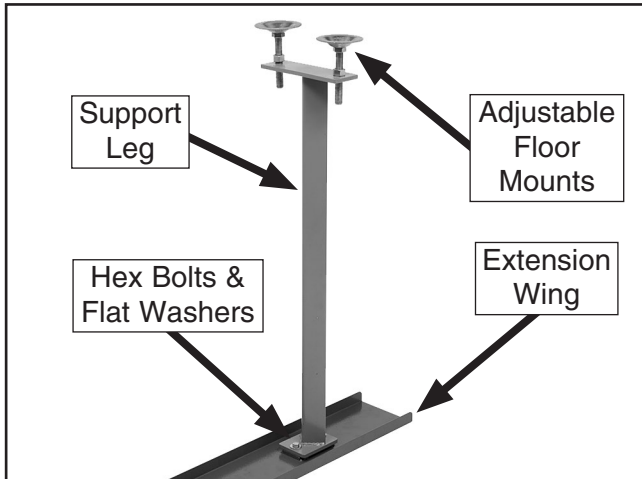

Figure 9. Extension wing with support leg installed.
1. Turn the extension wings upside down on a protected surface (see **Figure 9**).
2. Use a 13mm wrench to secure the support legs to the extension wings with the M8-1.25 x 20 hex bolts and flat washers, as shown in **Figure 9**.